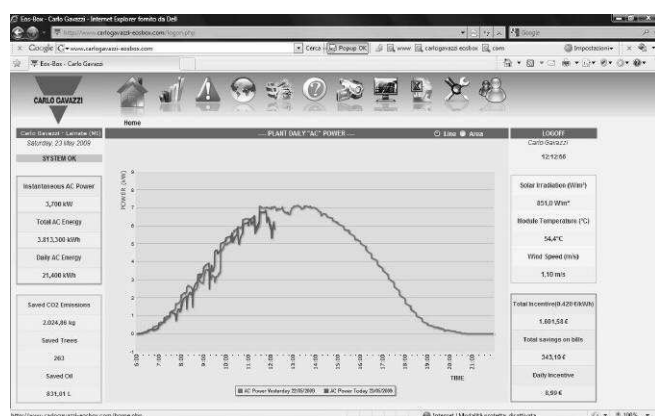

Fig. 1
**1 On the top. 11 icons are available to have direct access to different functionalities like (Fig.1):**